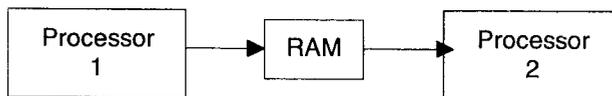

FIGURE 10.5 Two 68000s interfaced via shared RAM using TAS instruction
TAS.B (EA) is usually used to synchronize two processors in multiprocessor data transfers. For example, consider the two 68000-based microcomputers with shared RAM as shown in Figure 10.5.